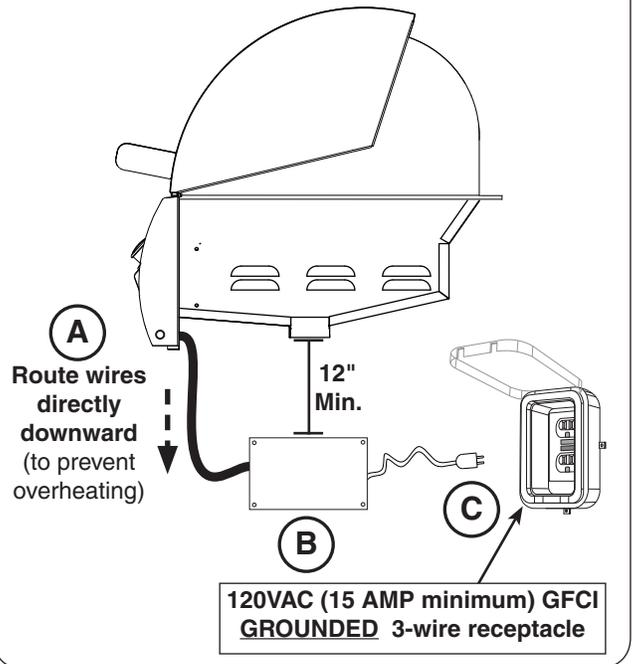

Fig. 24-1 Electrical installation
1. Route the wire harness extension below the control panel and directly downward. This will prevent overheating. **DO NOT** route the wire extension below the grill. See Fig. 24-1, A.
2. Mount the power supply box to the inside of the enclosure using appropriate hardware for your enclosure. It **MUST** be located at least 12 inches below the bottom of the unit. See Fig. 24-1, B.
3. Connect the cord coming from the power supply to a **120VAC (15 AMP minimum) GFCI GROUNDED 3-wire receptacle** (see Fig. 24-1, C). The GFCI receptacle must be a **WEATHER-PROOF IN-USE COVERED RECEPTACLE**.